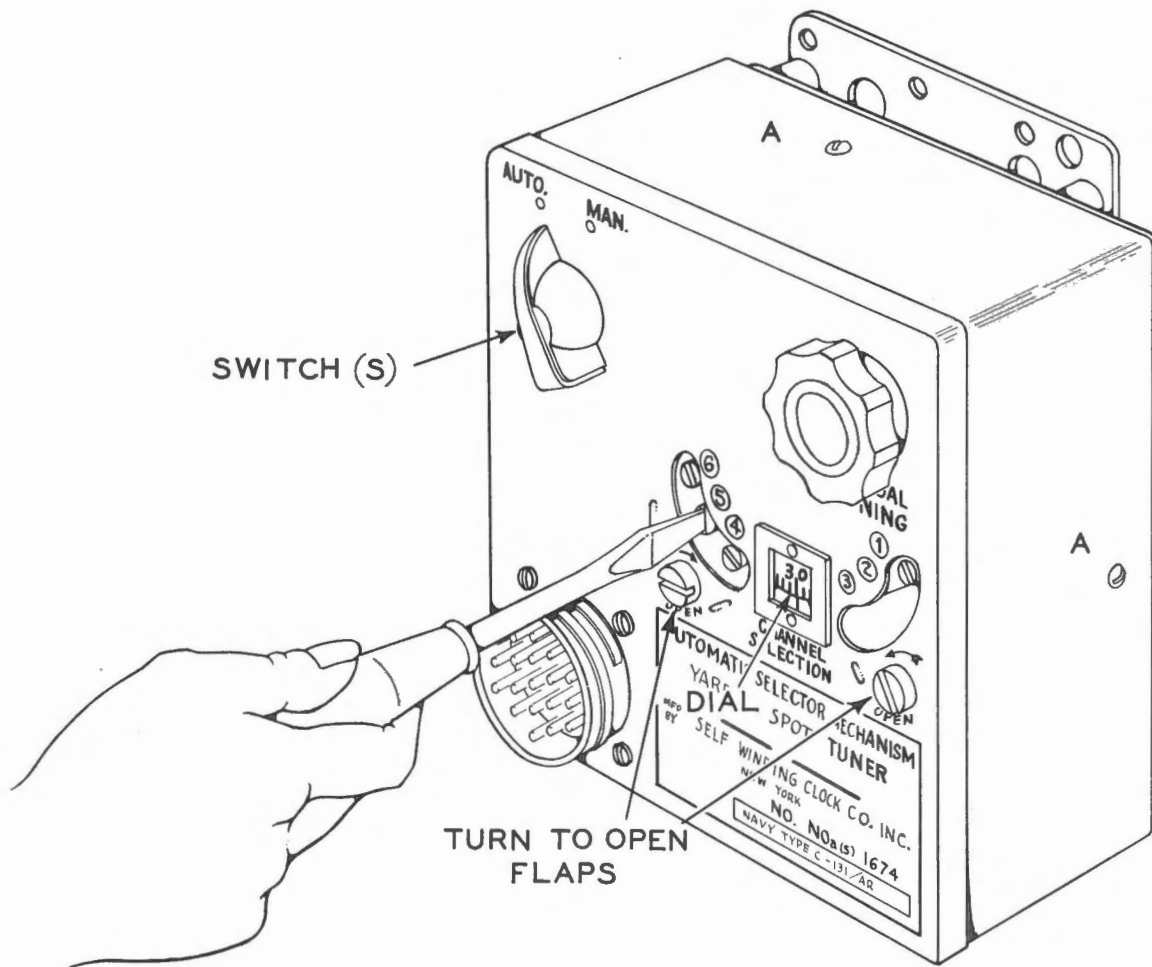

Figure 21 — Adjustment of Tuner
3. (FIG. 21) Remove outer cover by removing four screws A. Then place the dial so that the 0 and 100 marks coincide with the end positions of the tuning condenser of the receiver, i.e. fully open and fully
- (2) Put on head set and switch on the power.
- (3) (FIG. 21) To set the automatic tuner, set the master switch (S) to the "AUTO" position. Then open the flaps which cover the heads of the reset shafts by turning the large slotted heads which operate these flaps. With a screw driver adjust the reset
(4) To adjust the tuner for additional channel frequencies (Maximum 6) reset the remote control switch to the desired new number and adjust the corresponding reset shaft as described under (4).
(5) Any of the pre-selected channels can now be tuned in by turning the remote control switch to the corresponding number. The automatic tuning mechanism will always place the tuning condenser accurately in the correct position.
b. **FOR MANUAL OPERATION.**—Set the switch (S) in the upper left hand corner of the Automatic Selector Mechanism to the position marked "MAN". Tune the receiver with the manual tuning knob in the upper right hand corner of the instrument (FIG. 21). The frequency to be tuned can be determined with the 0 to 100 calibration on the tuning dial of
CIRCUIT.—The Automatic Selector Mechanism (Spot Tuner) embodies six selector discs with contact segments (A) separated by gaps (E). The angular position of these gaps controls the setting of the receiver's tuning condenser and each selector disc can be individually adjusted for such setting. This is done by adjusting the corresponding reset shaft as is outlined in Section II of this manual and shown in Fig. 21. The circuit also contains the contact arms (B) which slide over the segments (A). The arms are mounted on a common shaft (D) driven by a motor through a worm and worm gear. The direction of rotation of the motor is determined by